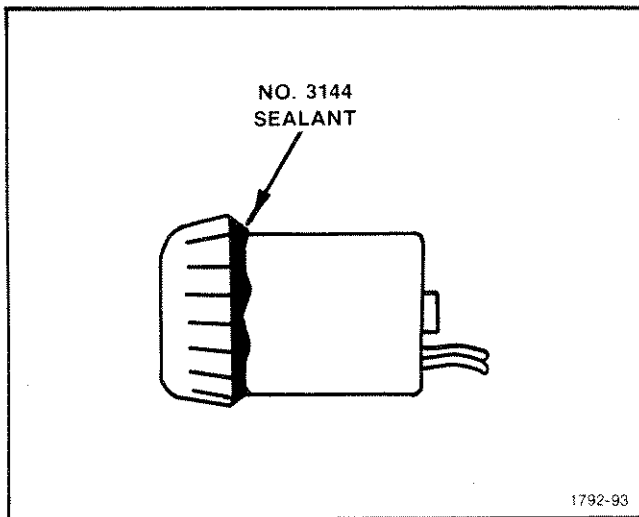

Fig. 5-15. Application of sealant to Battery Meter.
**16. Install Battery Meter (see Fig. 5-15 and 5-16)**
1. Apply a thin bead of No. 3144 sealant to the junction of the bezel and meter canister (see Fig. 5-15).